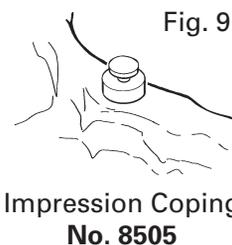

Fig. 9
2. Place a Locator Impression Coping with Black Processing Male (636067) onto each Locator Abutment (Fig. 9).